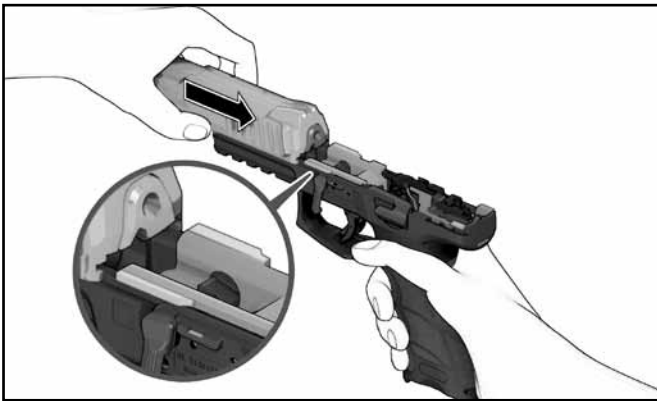

Figure 27 – Mounting the slide on the frame
6. Mount the slide onto the frame, ensuring that the recoil spring is centered underneath the barrel, and that the rails on the frame are inserted into the grooves on the bottom of the slide (see Figure 27).